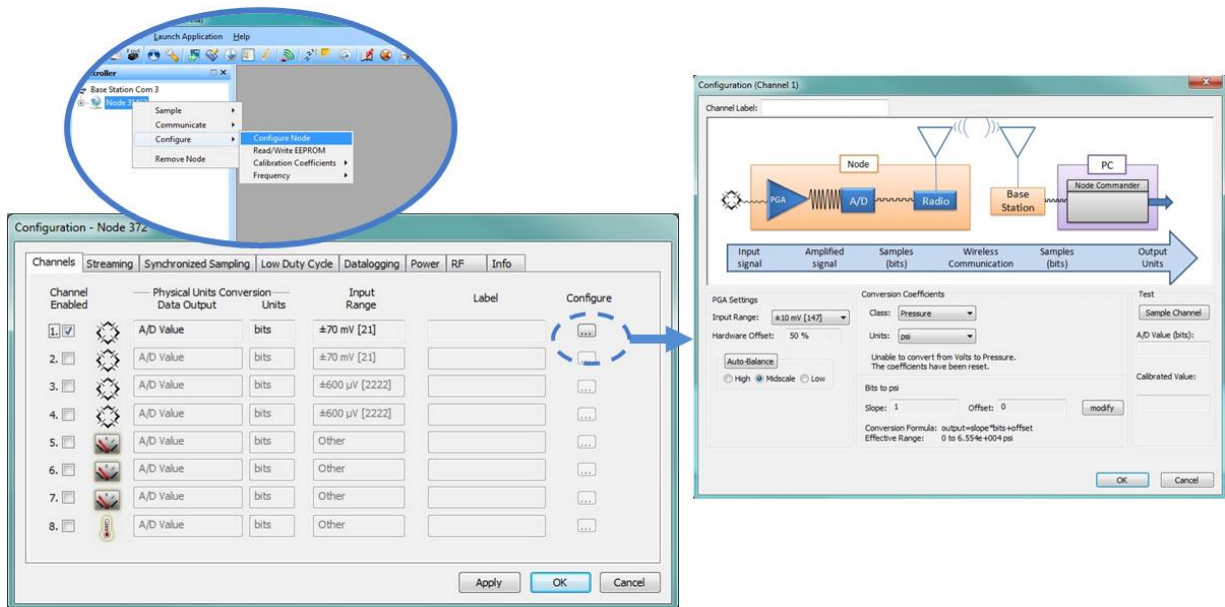

Figure 2 - Node Configure Menu
2. Right-click on the node name and select Configure > Configure Node (*Figure 2 - Node Configure Menu*).